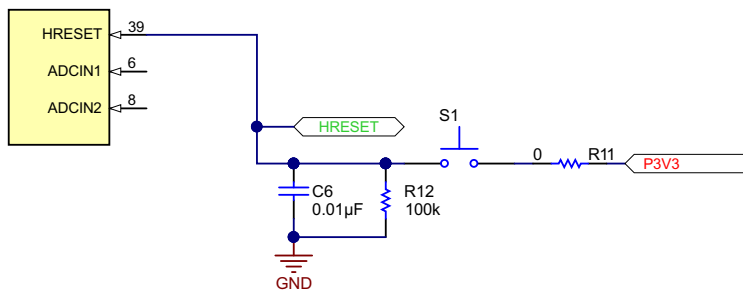

Figure 5-10. HRESET Push-Button (S1) Schematic
S1 is located on the top-left corner of the EVM. This switch is a push-button that pulls the HRESET pin (39) of the TPS65988 high when pressed. Releasing the push-button pulls HRESET low again, and the TPS65988 goes through a soft reset, which consists of reloading firmware (FW) from RAM. If a **valid** configuration is present in the RAM, the TPS65988 does not reload the configuration from the external flash. Figure 5-10 highlights these features.